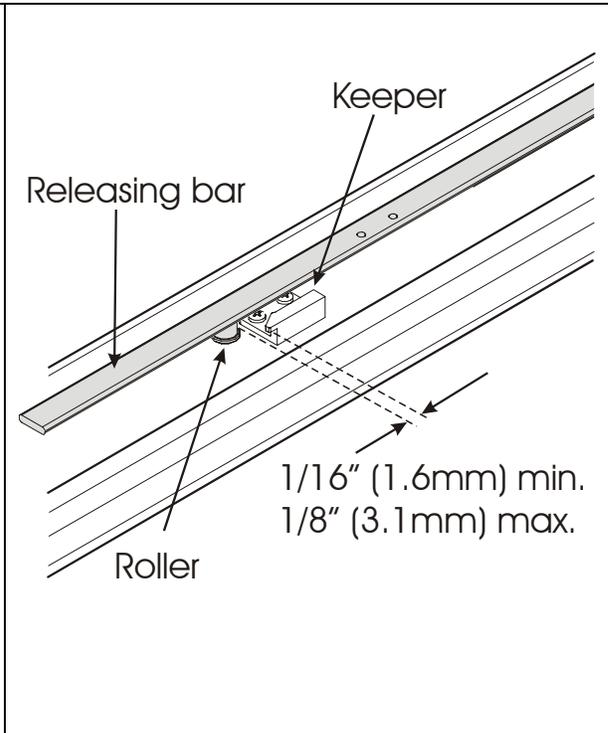

FIGURE 3: PLAY ADJUSTMENT (ref. step 7)
7. Set the clearance between the releasing bar roller and the keeper. It should not be less than 1/16" (1.6 mm) and no more than 1/8" (3.1 mm). The horizontal latch handle must be positioned all the way to the right when setting the clearance (figure 3). Adjust both keepers.